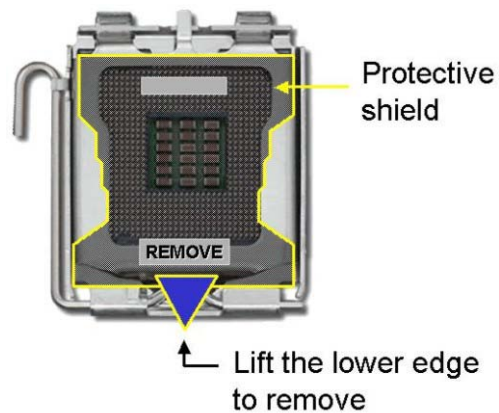

Figure 4-2: Remove Protective Cover
Step 1: **Remove the protective cover.** The black protective cover can be removed by pulling up on the tab labeled "Remove". See **Figure 4-2**.